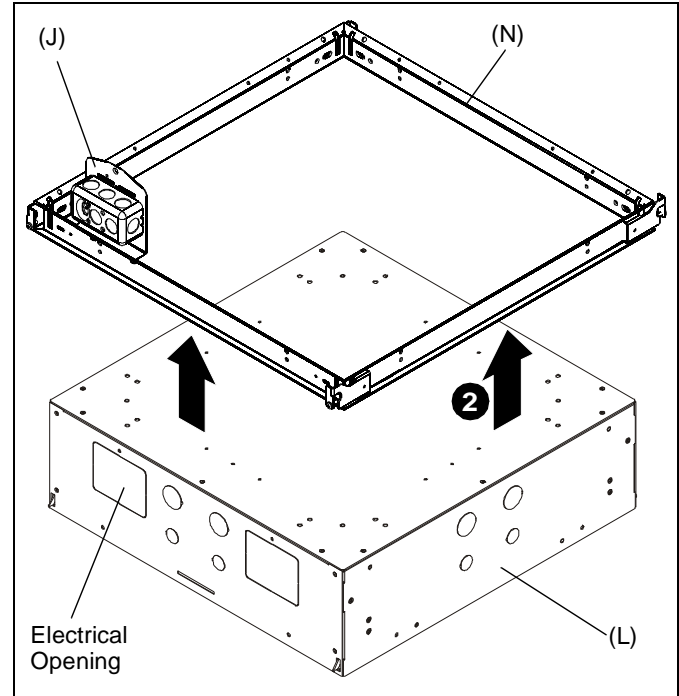

Figure 10
1. Orient CMS490 so that the electrical opening lines up with the outlet box attachment plate (J) on the CMS490 frame. (See Figure 10)
2. Lift CMS490 (L) into place through the CMS490 frame (N). (See Figure 10)